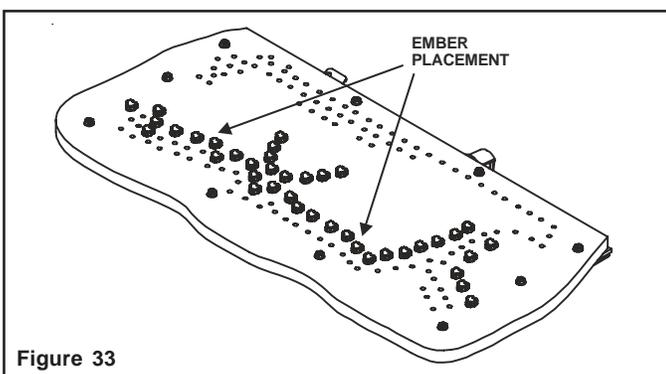

Figure 33
- Pull the four glass latches out of the groove on the glass frame. Remove glass door from the unit (see Figure 33).
- • Place dime size pieces of mineral wool embers about 1/2 inch apart near port holes in burner top. Do **NOT** press embers into burner ports. Cover the top of the burner with a single layer of ember material. For best performance do **NOT** place embers on the ports at the rear of the burner (Figure 33). Failure to follow this procedure will likely cause lighting and sooting problems.